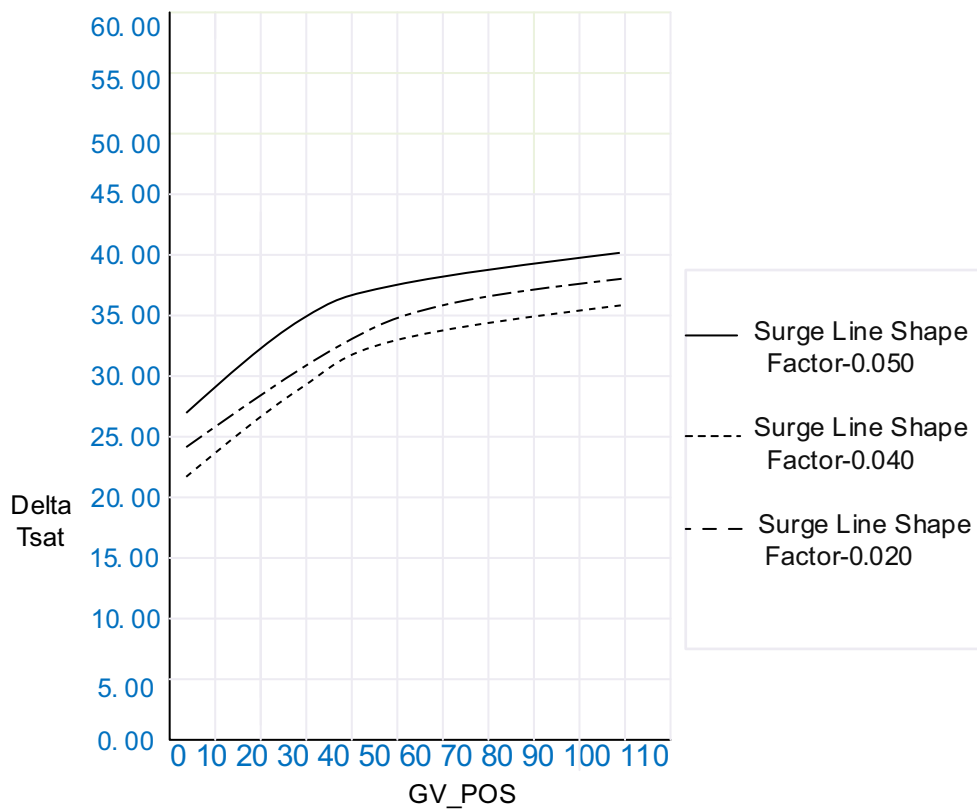

Fig.40 Effect of SURGE LINE SPEED FACTOR on Surge Prevention
- The effect of surge line speed factor on surge prevention line is shown in **Fig.40**.